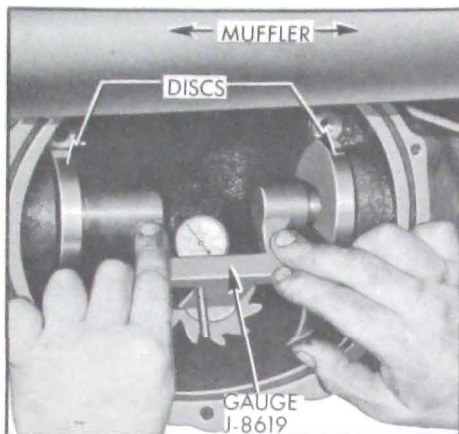

Figure 6-31—Checking Pinion Depth
8. Place indicator gauge in carrier and turn pinion if necessary so that indicator contact button has a good contact with gauging tooth of pinion. See Figure 6-31.
7. Recheck pinion setting with gauge. See Figure 6-31. Setting for new pinion must be within .0015" of setting marked on pinion. Setting for used pinion should be within .0015" of original setting (as checked before disassembly).